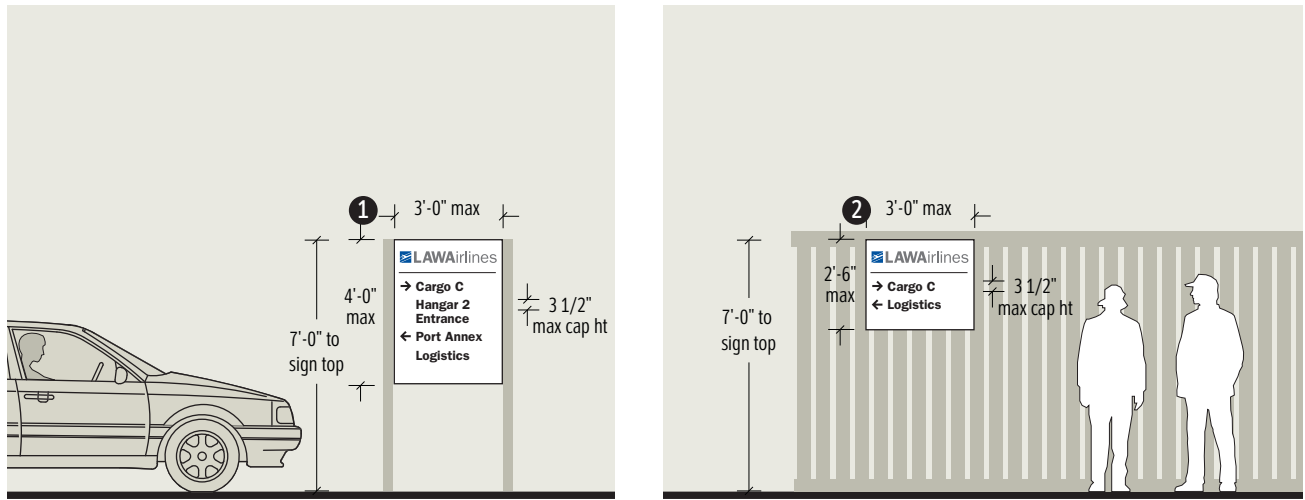

Figure 6d: Directional signs guide vehicular traffic to tenant buildings when other such signs do not exist.
① ② See Figures 6d. ③ See Figure 6e.